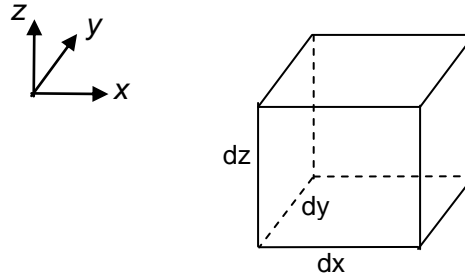

Figure 1
1. (a) Figure 1 shows an infinitesimal volume taken from an interior of an elastic body under the action of external load. Show all the stress components (in Cartesian coordinate system) acting on the infinitesimal volume.
Derive the equilibrium equation in z -direction for the infinitesimal volume shown in Figure 1 above. It is given that body forces B_x , B_y and B_z act on the infinitesimal volume in x , y and z -direction respectively.